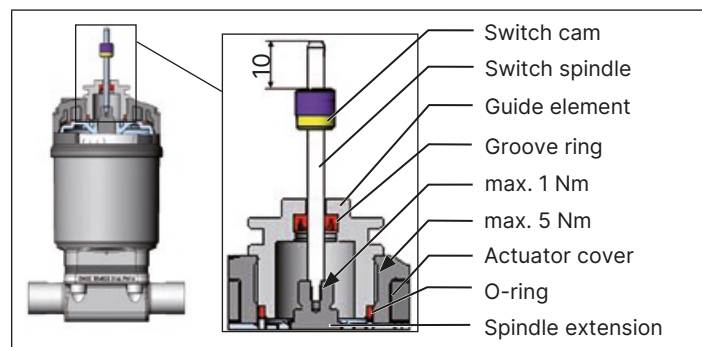

Fig. 2: Installation of switch spindle (2), 21xx series
- ▶ Position the switch cam on the switch spindle so that the distance between the switch cam and top of the spindle is 10 mm (see Fig. 2)